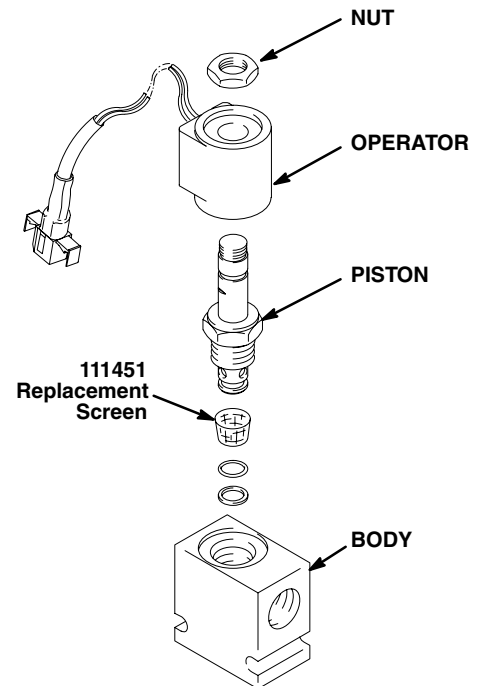

Fig. 4
3. Unscrew the nut, remove the operator, and unscrew the piston from the body. See Fig. 4.